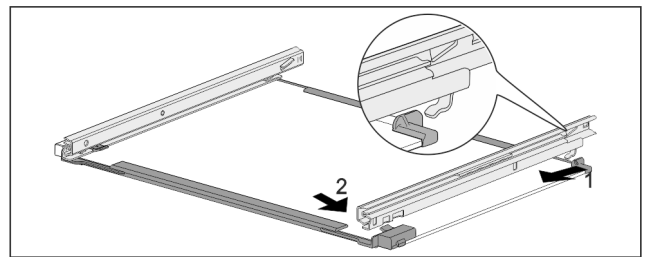

Fig. 134 Glass shelf with rails
- ▶ Hook in rail at the back. Fig. 134 (1)
- ▶ Hook in rail at the front. Fig. 134 (2)